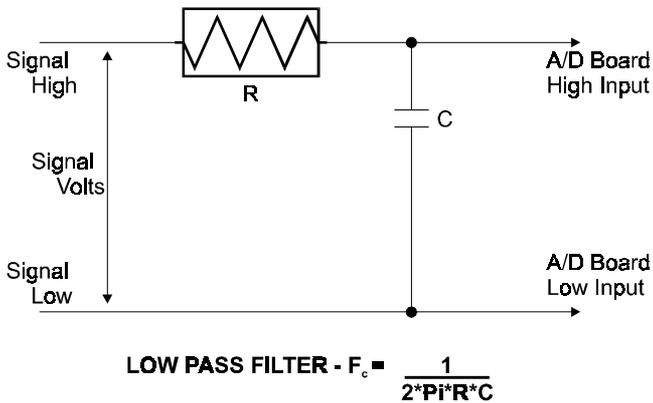

Figure 5-3. Low-Pass Filter
A simple low-pass filter may be constructed from one resistor (R) and one capacitor (C) (Figure 5-3). The cut-off frequency is determined according to the formula: